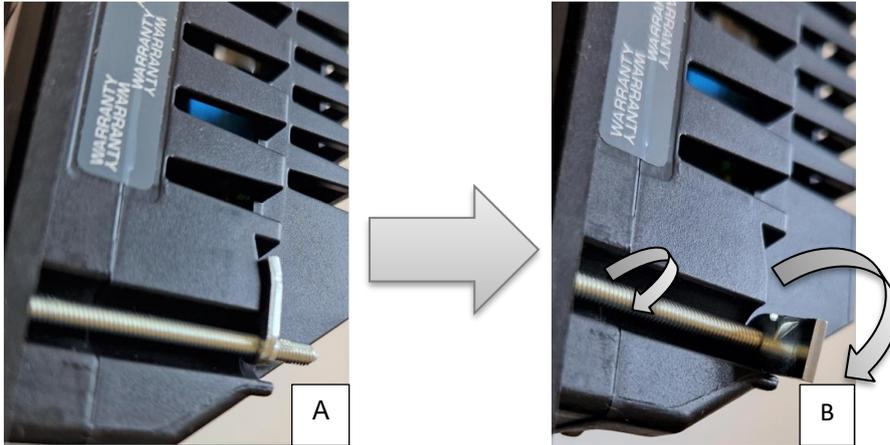

Fig. 6. Mounting screws and smart-grip clamps are pre-mounted on the XDi unit
7. Fixate it firmly by tightening the screws on the XDi front (see the smart-grip function on fig. 6 below).